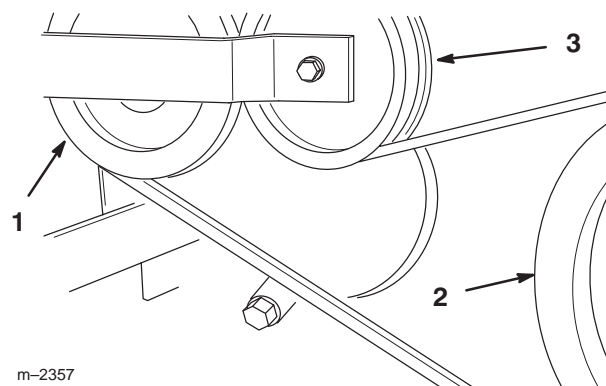

Figure 8
1. Route V-belt around jackshaft pulley and gear box pulley (Fig. 8).
2. Raise idler pulley and position over upper portion of belt (Fig 8).